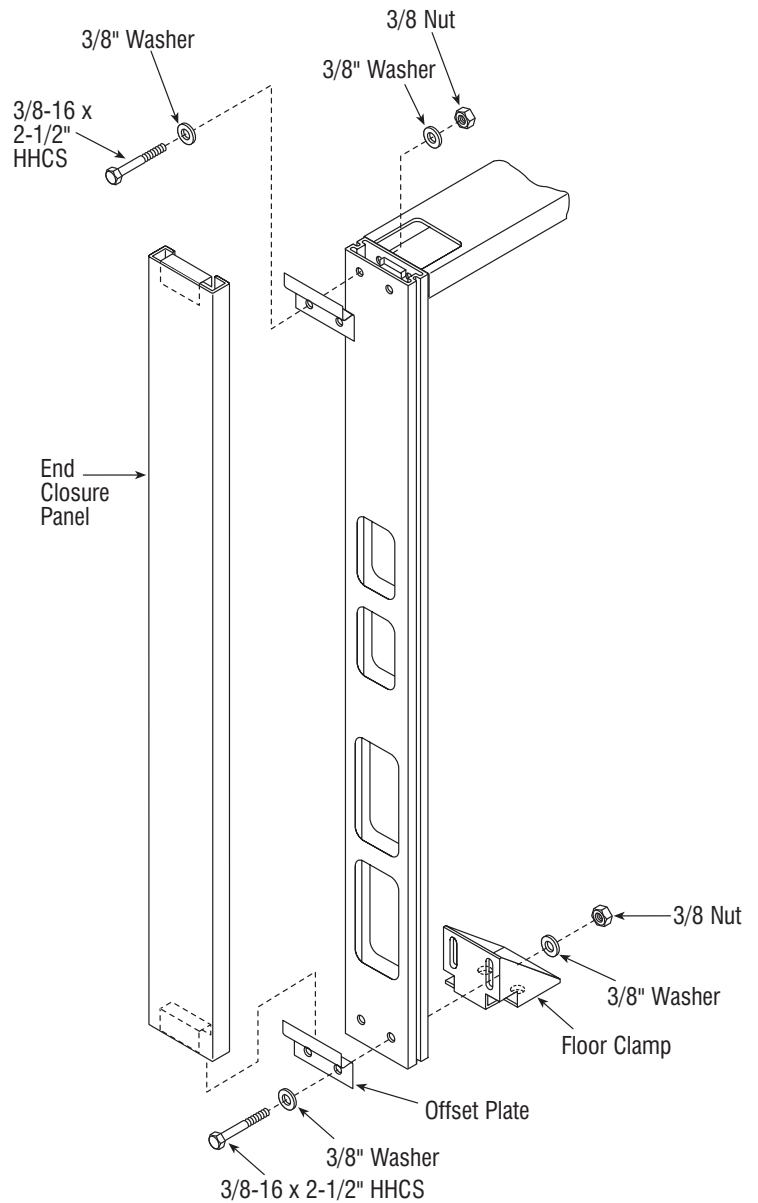

Figure 3-10
3. Attach end closure panel by hooking panel over offset plates. Press down firmly. See Figure 3-10.